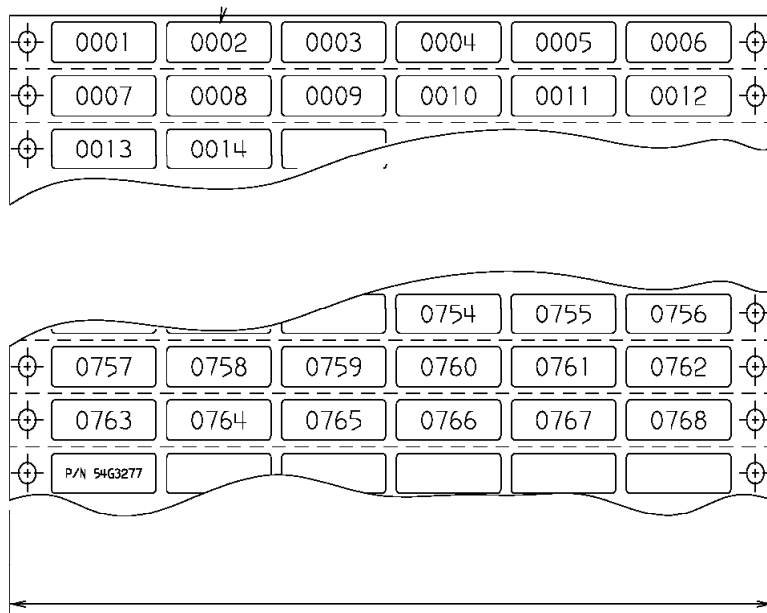
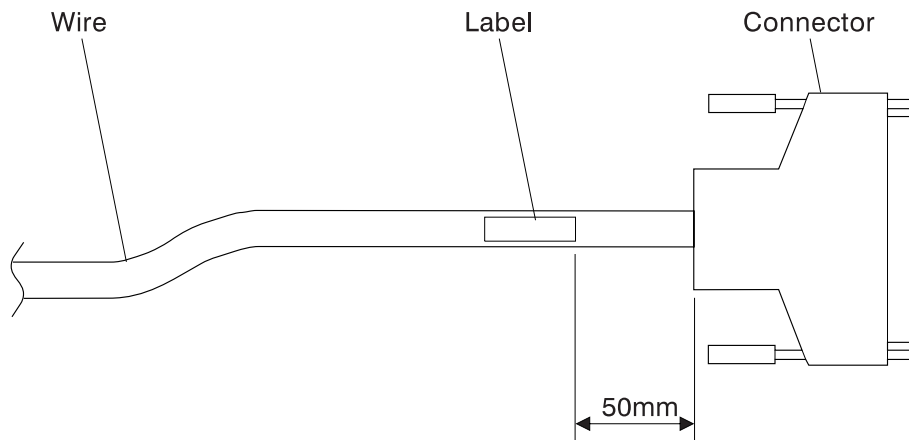
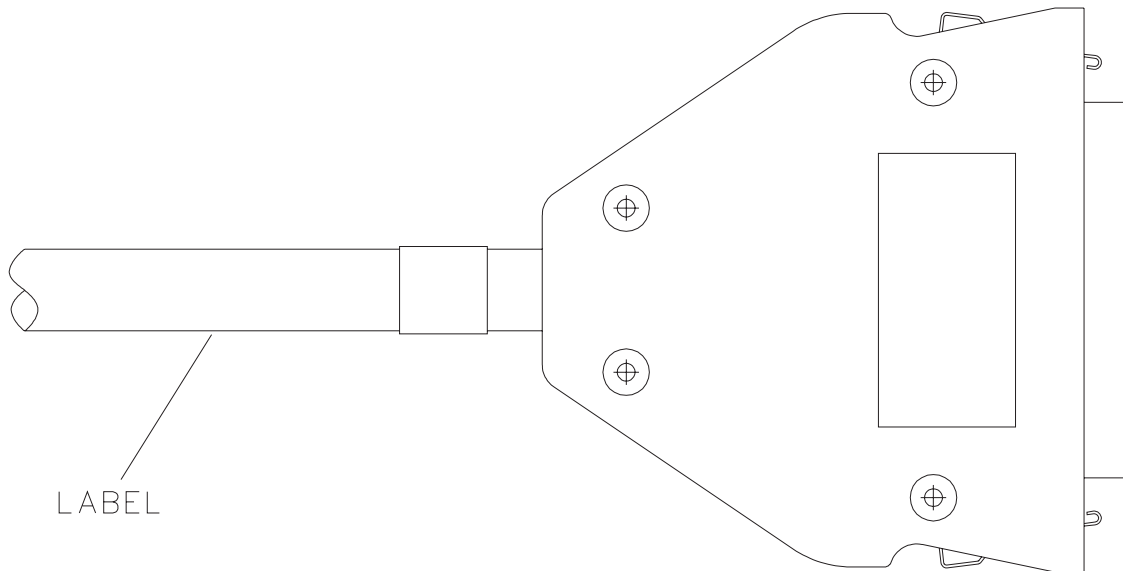

Figure A-6. Label Sheets 1 and 2
Figure A-7. Labeling Data Cables (HiPS)
Figure A-8. Labeling Data Cables (SPS)
4. Use the label sheets shown in Figure A-6 on page A-12 to label the cables. Use Figure A-7 on page A-12 and Figure A-8 on page A-13 to place labels on cables.